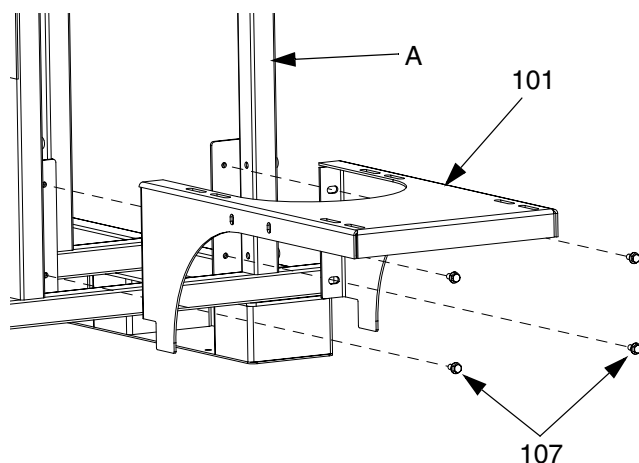

FIG. 3: Sides of Frame
1. Mount hoppers (D) on sides of the frame (A). See FIG. 3.
- a. Attach main bracket (101) to frame (A) with screws (107).